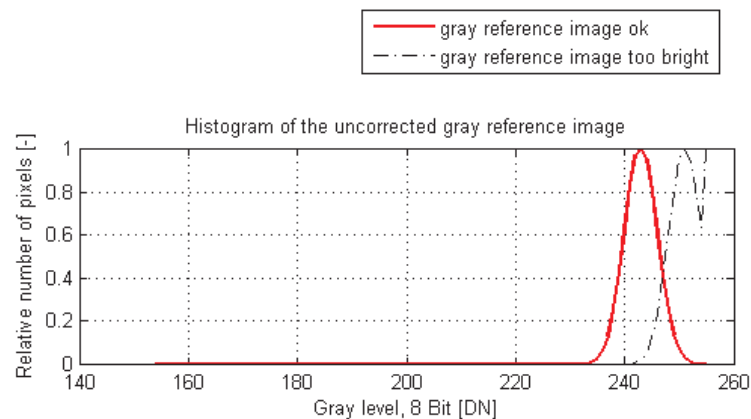

Figure 4.18: Proper grey reference image for gain correction
- When looking at the histogram of the grey reference image, ideally there are no grey levels at full scale (255 DN @ 8 bit). All pixels that are saturated white will not be properly corrected (see Fig. 4.18).